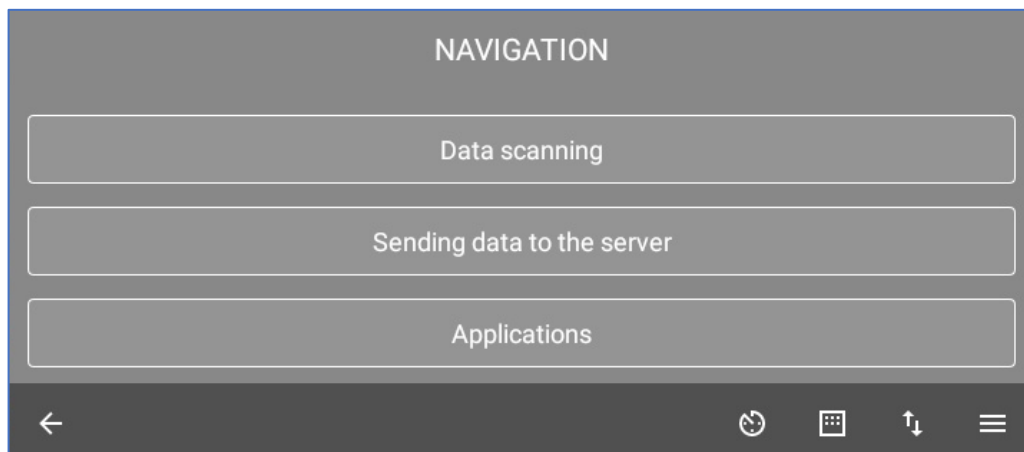

fig.3.3. System menu of DashDrive
- 2) In the main menu click the right button to enter the system menu (fig.3.3).